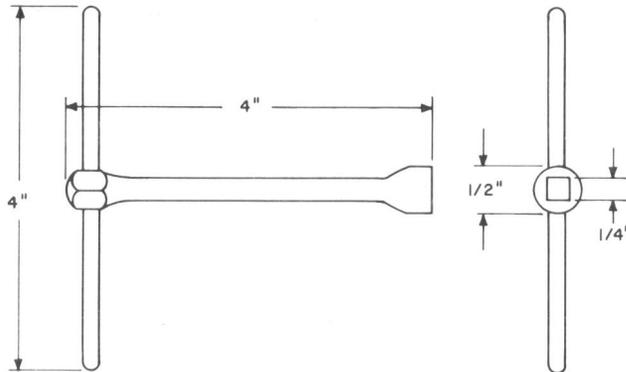

Fig. 9—254 Square, Single-End Socket Wrench
2.09 254: The 254 tool (Fig. 9) (Mfr Disc.) is equipped with a 1/4-inch square socket. The 254 tool is used on 16-type drives, 1-type vertical drive shafts, and solenoid-type master switches.